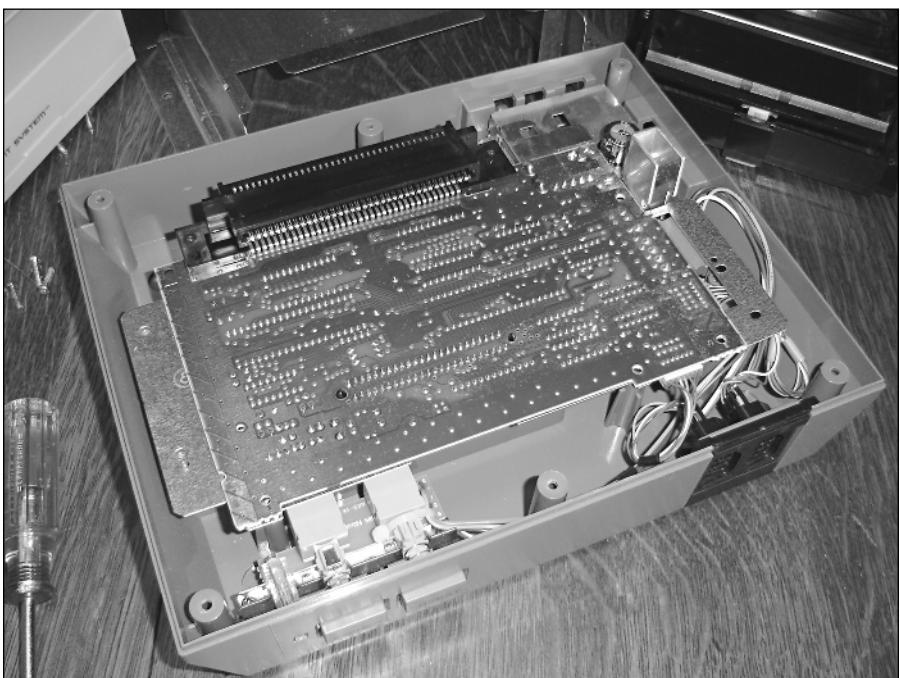

FIGURE 6-1: The NES, with its motherboard exposed to corrosion and RF signals!
4. Lift off the cartridge slot assembly—you'll have to pull it forward a bit, as some of it is under the motherboard. The unit will now look as shown in Figure 6-1.